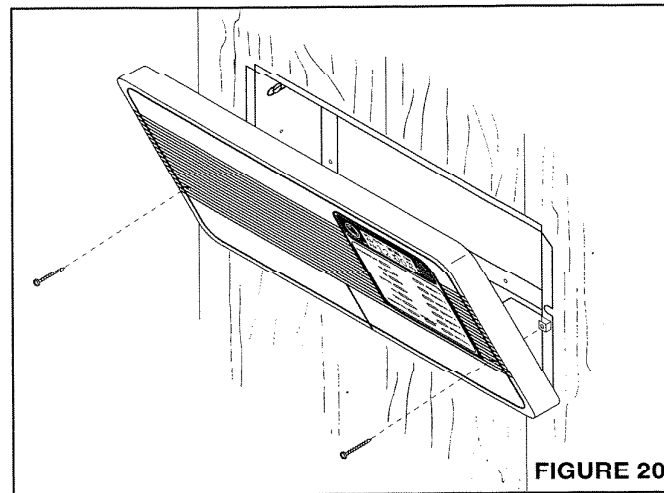

FIGURE 20
1. Refer to **Figure 20**. Inspect all wiring connections to make sure they are complete and correct.